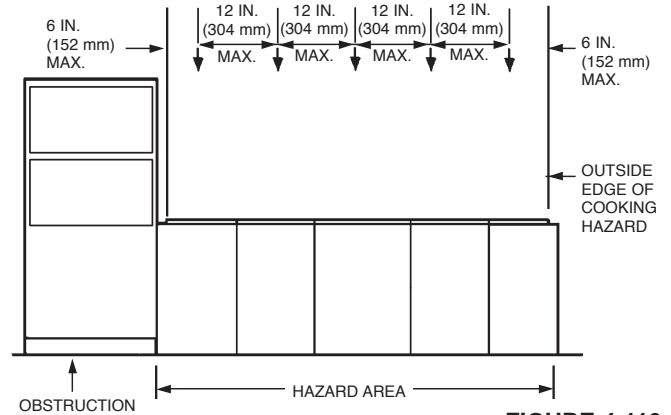

FIGURE 4-110
2. When obstructions are located adjacent to appliance(s) protected by overlapping nozzles, the overlapping appliance nozzle spacing must start with the appliance(s) adjacent to the obstruction. See Figure 4-110.